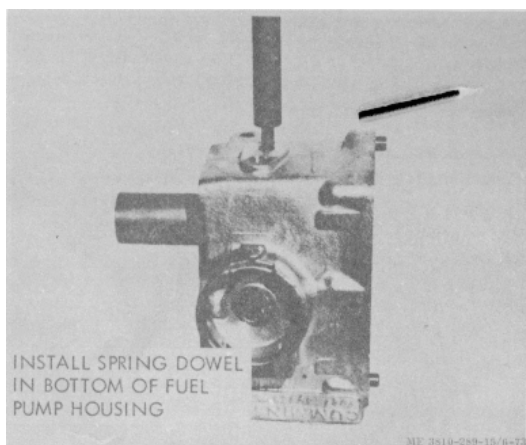

Figure 3-71. Spring dowel installation in bottom of fuel pump housing.
(8) Brush plunger lightly with crocus cloth to remove any lubrite crystals.
(9) Check plunger fit with a new fuel pump assembly as a fit comparison.
(10) If lapping is necessary, see steps 2 and 7 above.
(11) Install spring dowel into bottom of barrel with ST-853 Driver with slot of pin to front of housing, figure 3-71.